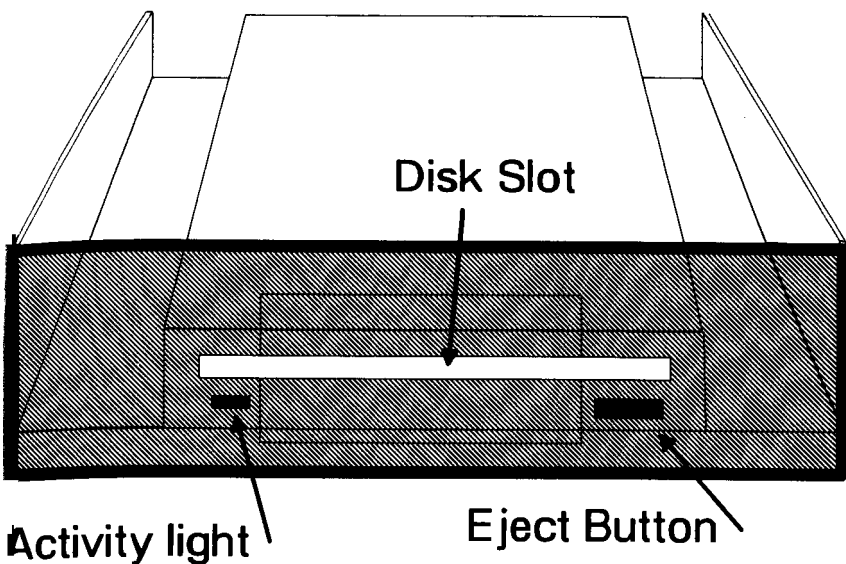

Figure 2.21 Front of 3.5" Floppy in 5.25" Frame
3.5" drive from a pin type to a card edge type. These adaptors usually come with the 5.25" mounting kits for the drives, though the larger frame is not used in this case. Figures 2.21 and 2.31 A floppy signal cable should then be made or purchased which also has a card edge connector rather than a pin type for the 3.5" drive being added, all other connectors remaining the same. This cable should be longer, having about five inches or so more of space between the connectors for the new 3.5" drive and the next. It is now necessary to disable the lines in the cable carrying the power to the drive. A close examination will reveal that these lines are cut by holes near the connector for the 5.25" drive on the old cable as it does not draw power from the signal cable. In the new cable, locate the teeth in the card edge connectors for the 5.25" drive and new 3.5" drive which correspond to these cut lines and remove them. The power in the signal cable is now unable to reach these drives. The new 3.5" drive may now be powered by a "Y" shaped splitter cable which can be installed in the separate power feed lines provided for the 5.25" floppies and hard disk drives. Vendors familiar with Tandy computers may sell the Teac drives with the necessary cabling included.